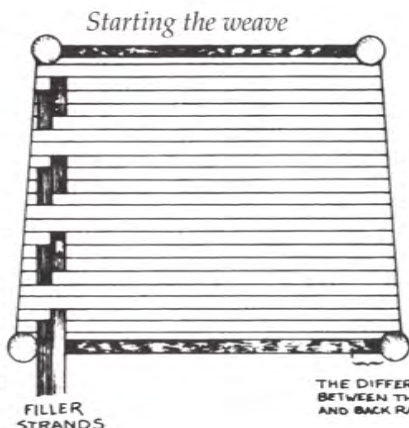

fig. 26
8. Start the weave. If the front rail is longer than the back rail, you will need to square the design with filler strands. Measure the front and back rails. When you have found the difference, divide it in half and mark each half off from each corner post on the front rail. See Figure 26.
design to start with and two or three to end with. This will vary depending upon your chair. See Figure 26.
10. Begin the second filler next to the first filler strand on the front rail. Weave over two and under three, over three, under three until you reach the back corner. Equalize the hanging ends as you did in Step 9. Figure 26.
14. If you are working a square or rectangular chair, start the continuous weave right away. Begin at the left front corner. Weave the strip in on the bottom first over one and under three, over three, and under three until you reach the back rail. Stop there. Now weave the other end over one and under three, over three and under three on the top of the seat. When you reach the back rail, go over it and weave over two and under three, over three and under three on the bottom of the chair. Do the same on the top. Now look at Figure 26. Find the third strand in from the left front corner and follow the pattern from there. It should go over three and under three evenly across the chair seat shown.
15. When the back rail is filled, weave the final end in on the bottom of the seat. If you need fillers, weave them in the same manner as you did on the left side. Refer to steps 9 and 10 and to Figure 26.